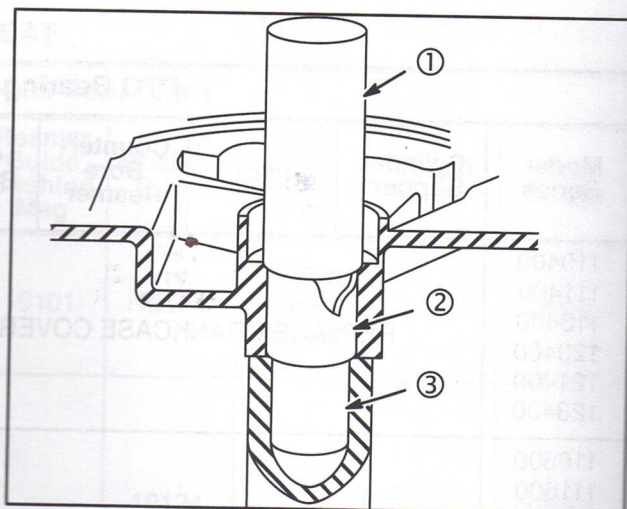

Fig. 7
2. Place cylinder support (3) under magneto bearing (2) and place bushing driver (1) down through worn bearing.
3. Press bearing out of cylinder, Fig. 7.